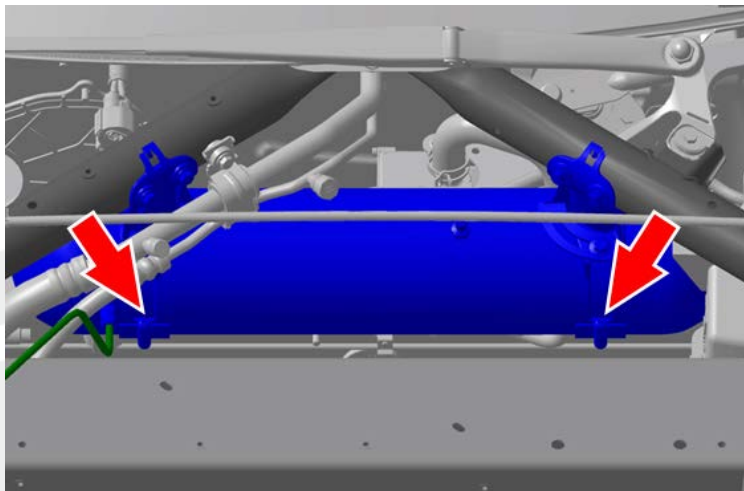

Figure 2
4. **Air Suspension Vehicles only:** Release the 2 bolts that secure the air suspension reservoir to the front crossmember (torque 2.5 Nm) (Figure 2). Gently lift the tank and move it out of the working area.